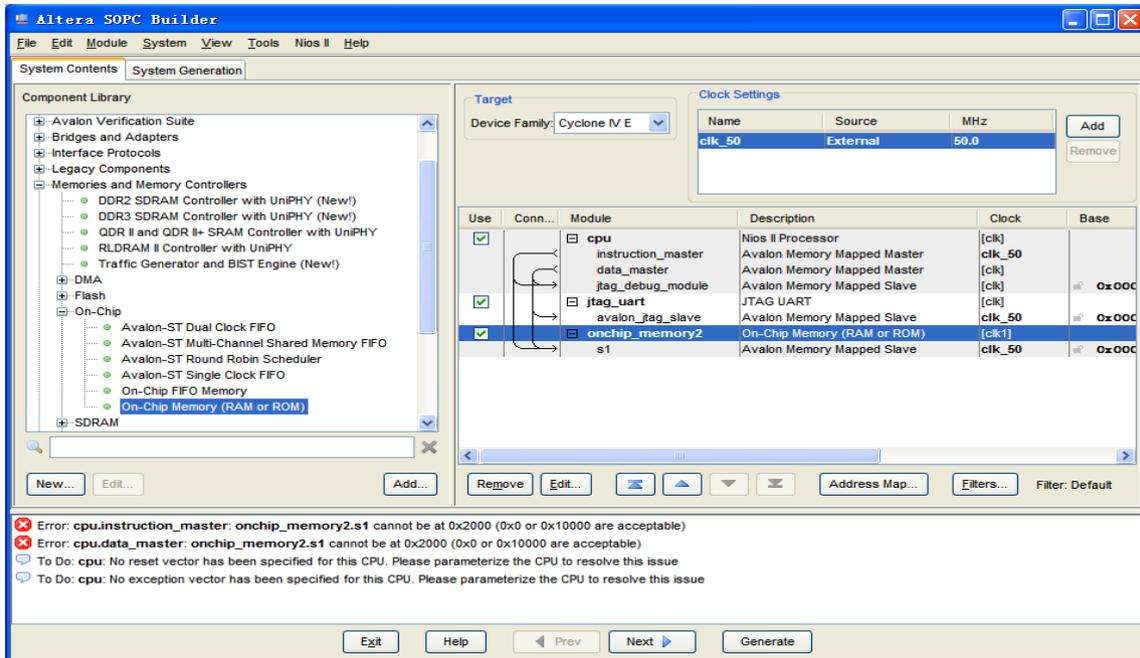

Figure 7-27 Rename On-Chip memory
17. Rename `onchip_memory2_0` to `onchip_memory2` as shown in Figure 7-27.